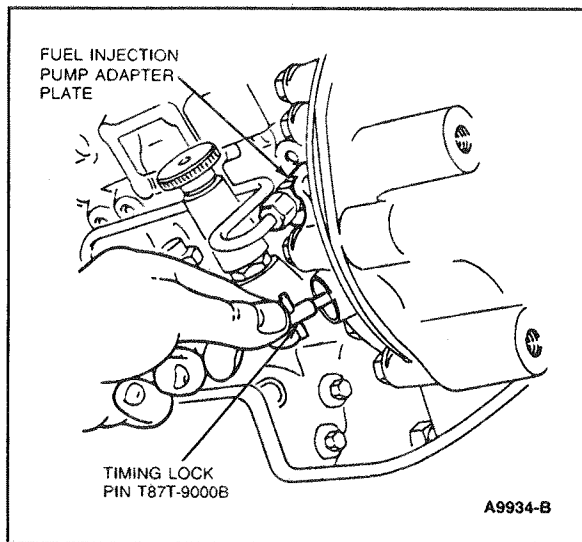

Figure 18 Lock Pin in Adapter Plate Installation
2. Remove the plug from the injector pump adapter plate timing pin location and install timing lock pin into the adapter plate (Figure 18).